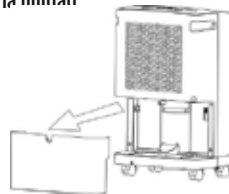

Fig 01
1. Take out the water tank as Fig 01 and pour out the water.